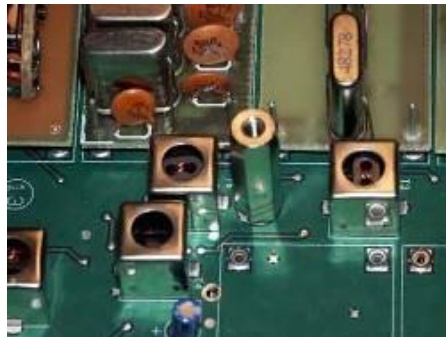

Figure 3: Location of 1/4th Inch Stud
5. Remove the stud that the roofing filter cover screws to (Figure 3 below).